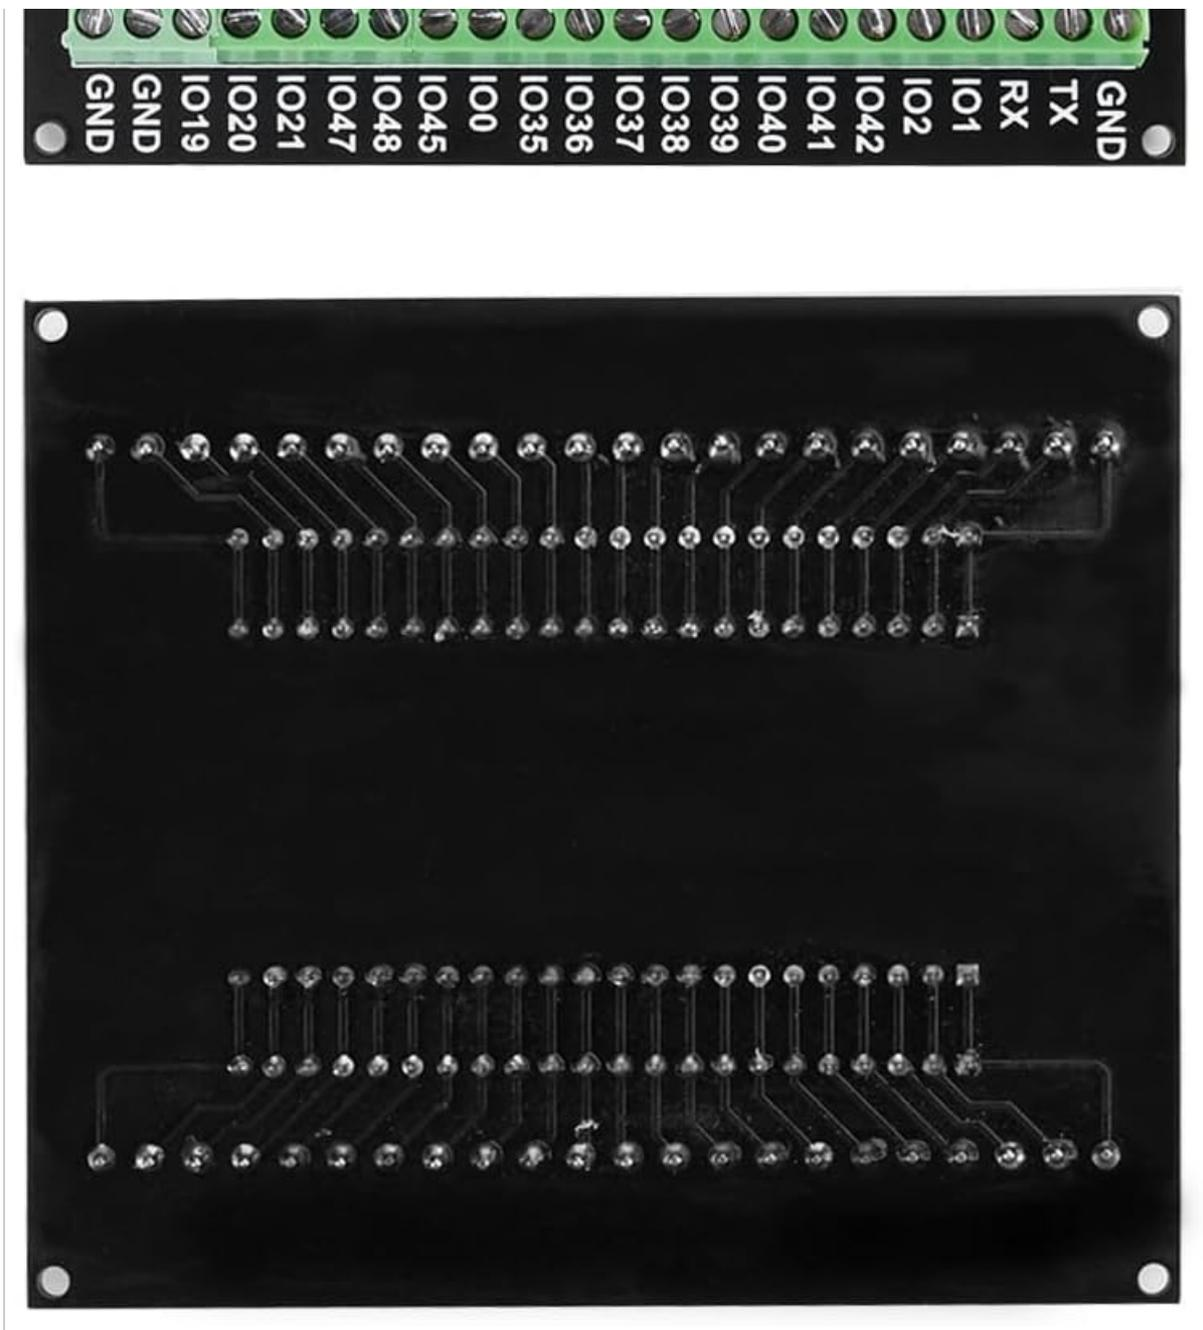

Figure 4.1: Pinout diagram of the ESP32 S3 expansion board, showing accessible GPIOs and power pins.
- **GPIO Usage:** Refer to the pinout diagram (Figure 4.1) for available General Purpose Input/Output (GPIO) pins. These pins can be configured as inputs or outputs to interface with sensors, actuators, and other electronic components.